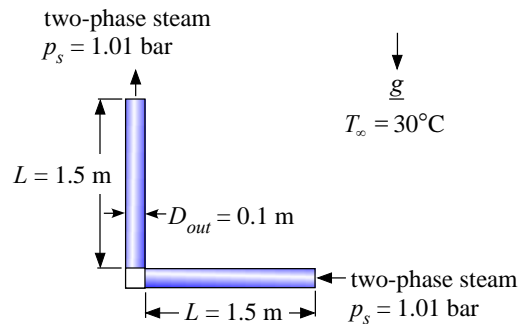

Figure P6.2-1: An "L"-shaped pipe.
6.2-1 (6-1 in text) A pipe that is 3 m long has an outer diameter $D_{out} = 0.1$ m and is bent in the center to form an “L” shape, as shown in Figure P6.2-1. One leg is vertical and the other leg is horizontal. The pipe is made of thin-walled copper and saturated steam at atmospheric pressure is circulating through the pipe. The pipe is in a large room and the air temperature far from the pipe is $T_{\infty} = 30^{\circ}\text{C}$ at atmospheric pressure. The conduction resistance associated with the pipe wall and the convection resistance associated with steam can be neglected.